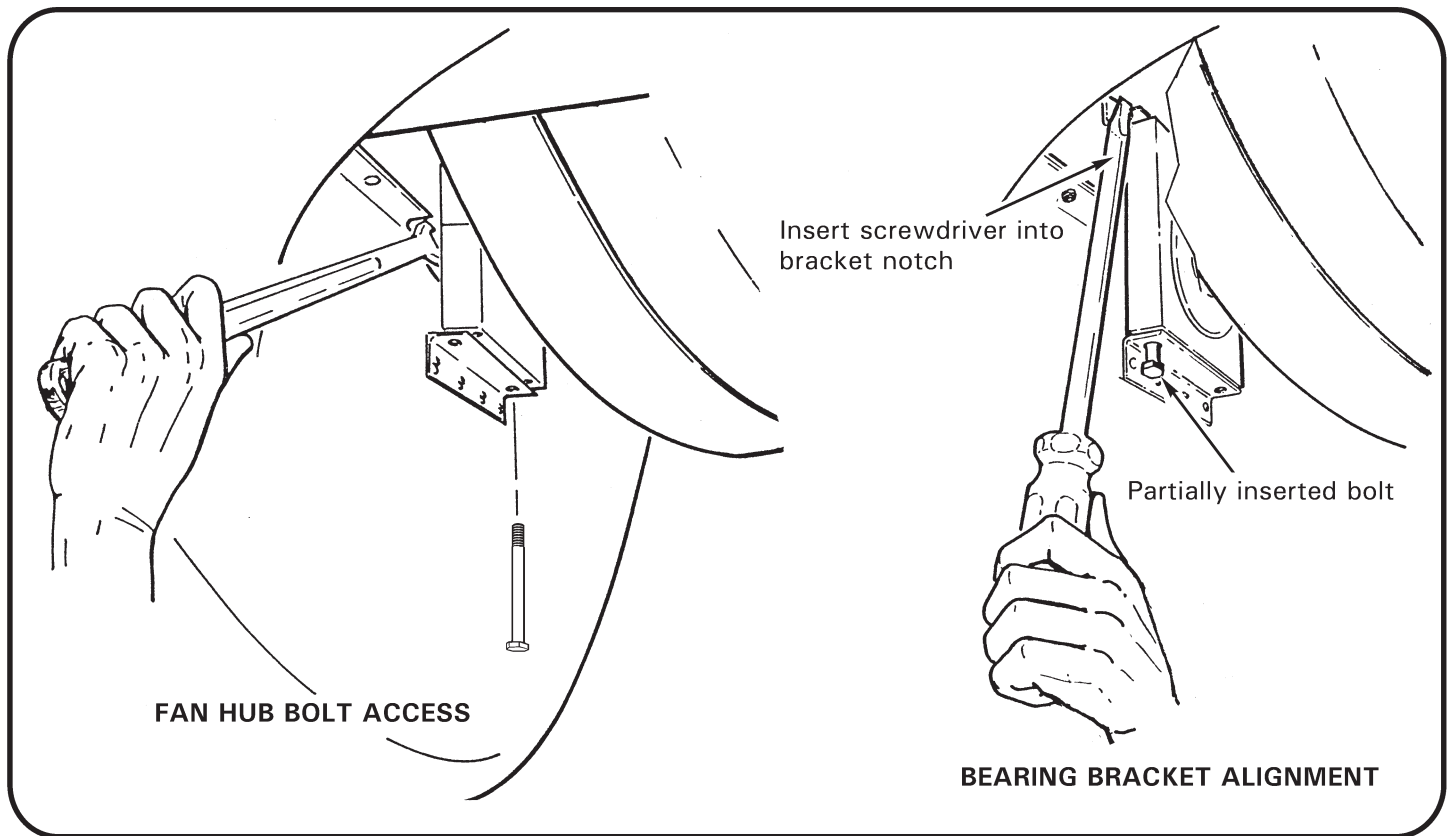

FIGURE 6-3A FAN HUB ACCESS AND LOWER BEARING BRACKET ALIGNMENT
- c) Refer to Figure 6-3A. Using an open-end wrench to hold bolt heads, remove every other nut on center hub bolts and replace them with MT092-3 spacer nuts.
- e) Install lower cooling scroll half (if removed) and insert two long bolts through lower bracket and actuator bearing block until they enter upper bracket nut plates. Align upper bracket nutplate by inserting screw driver in bracket notch (see Figure 6-3A). Torque bolts per Section 1.320.